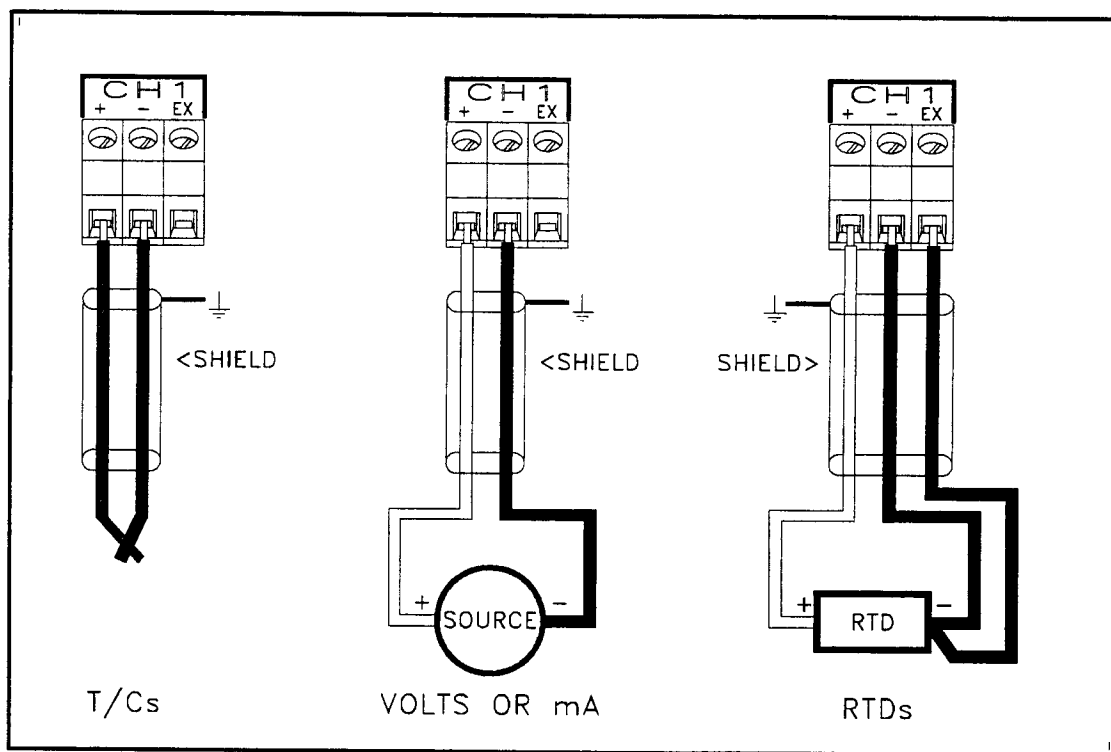

Figure 2-6 Transducer Connections
2.3.3.1 Thermocouple Inputs - Thermocouple input connections are made as shown in Figure 2-6 above - T/Cs.
long lead runs. See Figure 2-6 above for connections and refer to RTD manufacturing specifications to determine color code polarity.
Connect **CURRENT** and **VOLTAGE** inputs as shown in Figure 2-6 above.